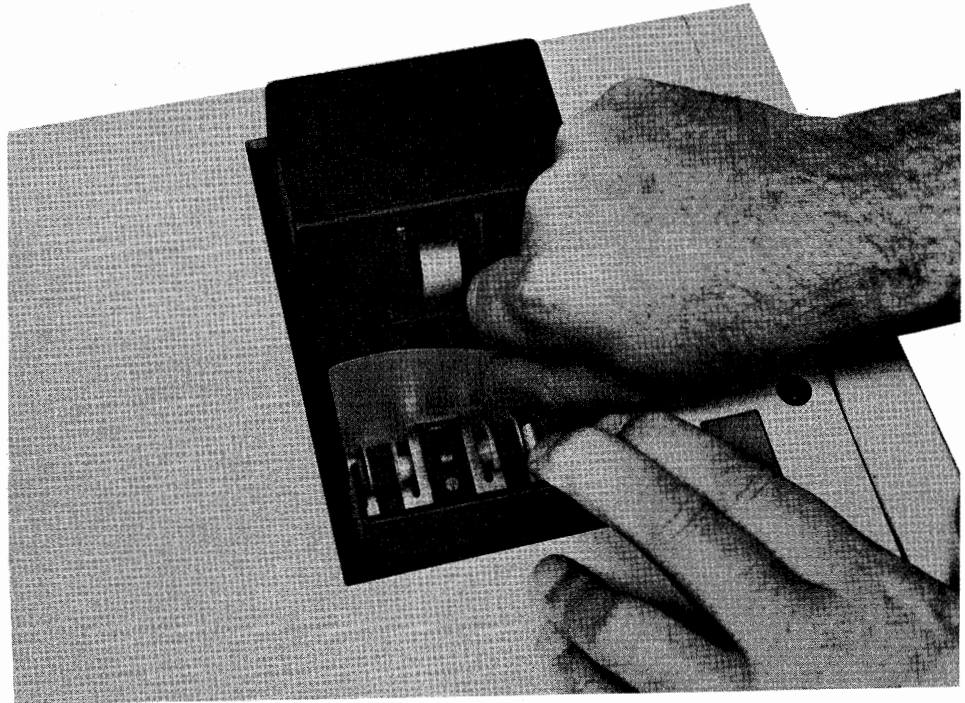

Figure 9-3. Removing a Card Jam at the Hopper
- 2 If the card jam is at the hopper, remove the card as shown in Figure 9-3.